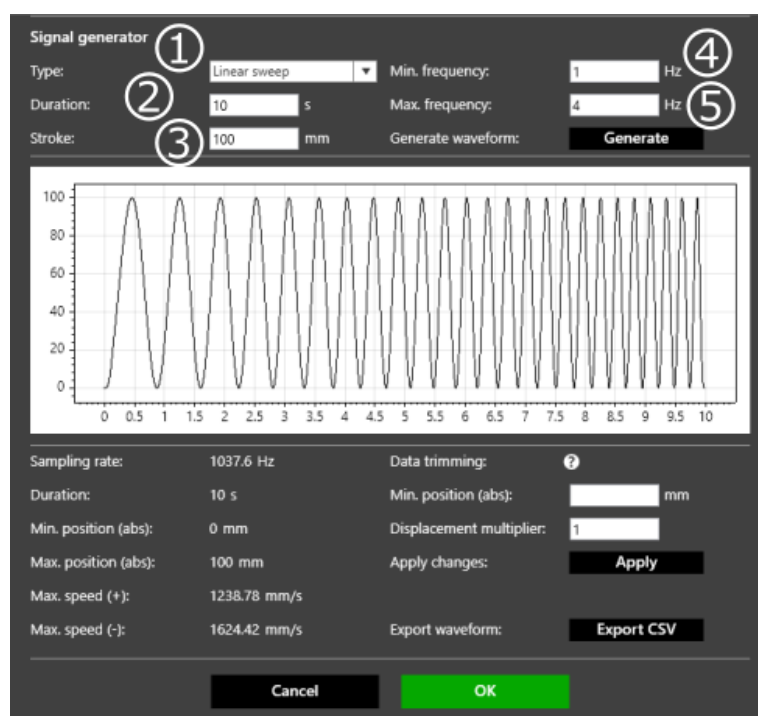

Figure 39
1. Select signal type (Figure 39 – Step 1).
2. Enter the duration of the test (Figure 39 – Step 2).
3. Enter the stroke of the test (Figure 39 – Step 3).
4. Enter the minimum frequency (Figure 39 – Step 4).
5. Enter the maximum frequency (Figure 39 – Step 5).